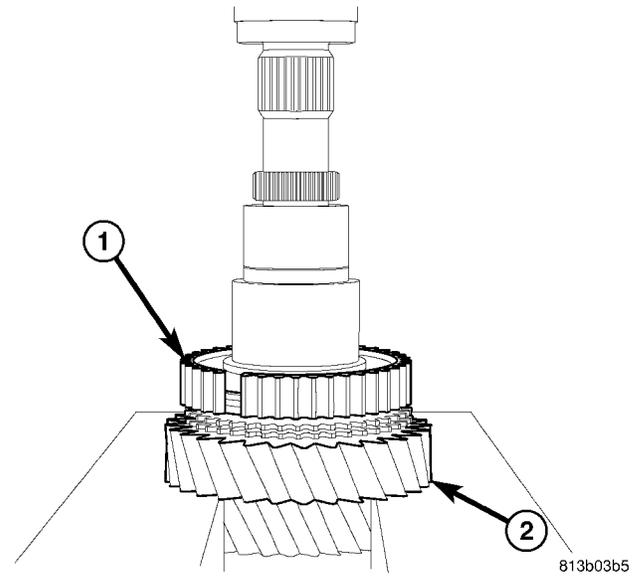

Fig. 35 SECOND GEAR
(20) Remove 1-2 synchronizer hub (1) (Fig. 35), synchronizer rings and second gear (2) off shaft with a press. Place second gear (2) on press plates and press shaft through 1-2 synchronizer hub (1), synchronizer rings and second gear (2)